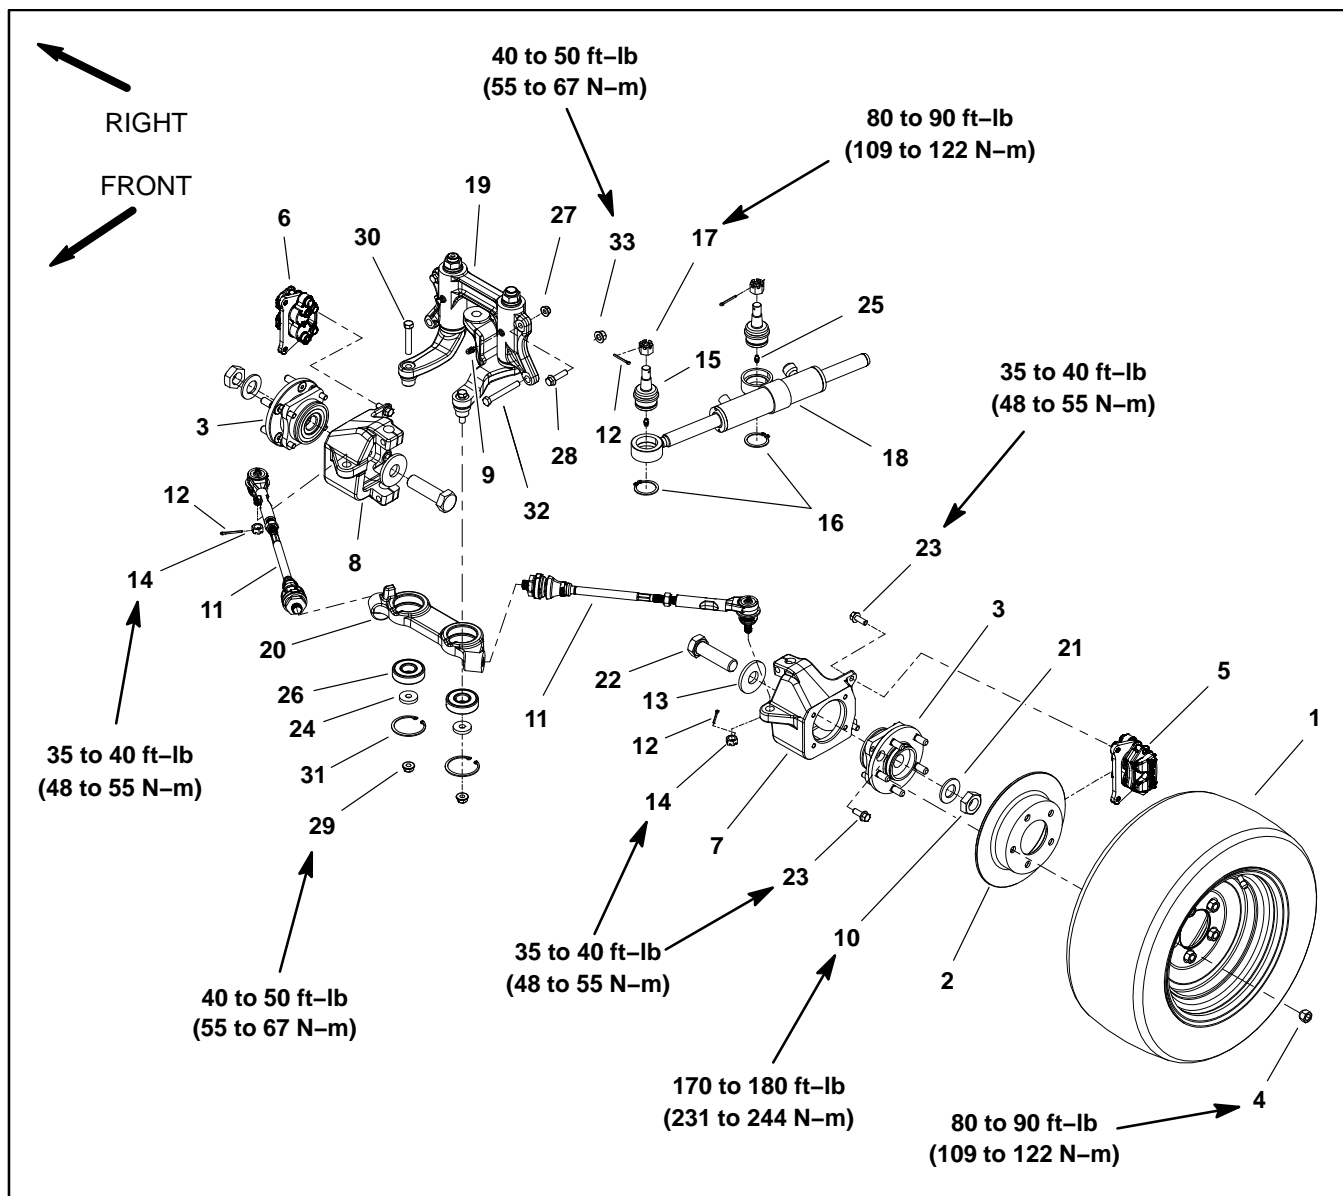
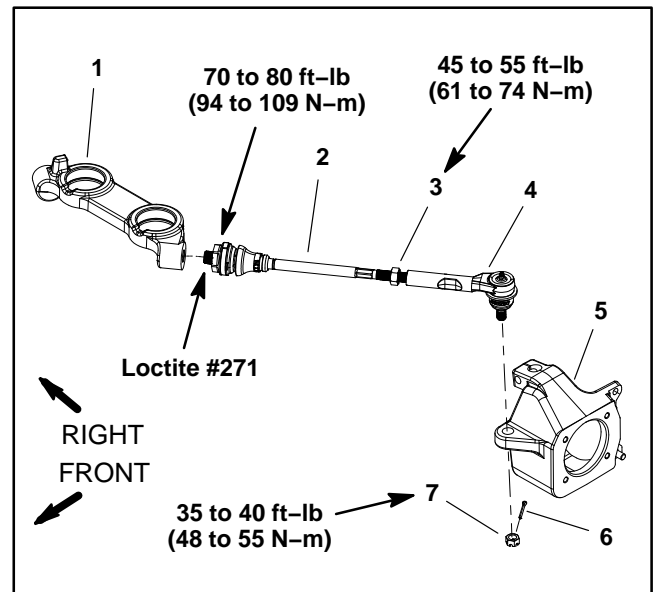

Figure 21
Figure 22
Disassembly (Fig. 21)
3. To remove tie rod (item 11) from vehicle (Fig. 22):
4. To remove steering linkage (item 19) and center link (item 20) assembly from vehicle:
D. Remove fasteners (items 27, 28, 32 and 33) that secure steering linkage and center link assembly to frame. Remove assembly from frame.
5. If removed, disassemble steering linkage and center link assembly as required using Figures 21 and 23 as guides.
Assembly (Fig. 21)
1. If steering linkage and center link assembly were disassembled, use Figures 21 and 23 as guides for assembly.